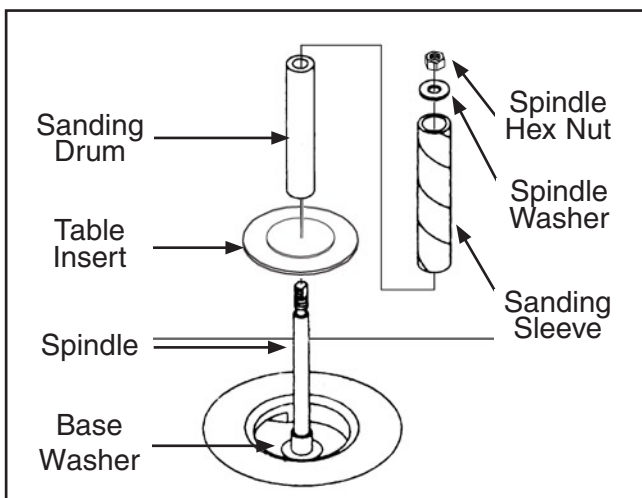

Figure 13. Removal/installation order of sanding drum components and table inserts.
3. Remove the spindle washer, sanding sleeve, sanding drum, table insert and base washer (see **Figure 13**).
6. Insert the base washer, then install the desired sanding drum on the spindle shaft, followed by the corresponding sanding sleeve on the drum, as shown in **Figure 13**.